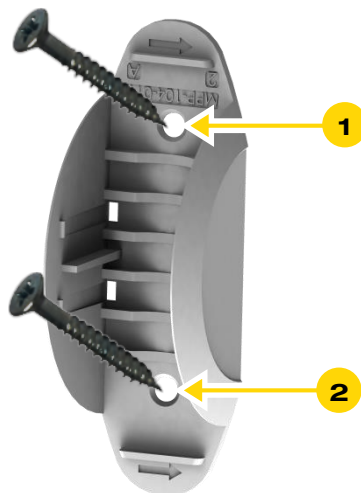

Figure 118: Flood Detector Transmitter Unit Base with Screws
The base should be disassembled from the Transmitter Unit body, as demonstrated in Figure 117 above, and attached either by the double-sided tape (pre-attached to the base) or using screws as demonstrated in Figure 118 below.
2. Use a flat screwdriver to remove the punch-outs 1 and 2 (see Figure 118 below).